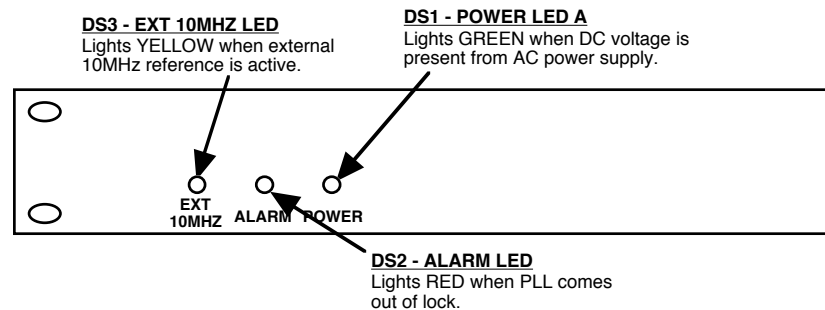

FIGURE 2.2 2116-222 Front Panel Controls and Indicators
Figure 2.2 shows the front panel indicators.
4. Be sure DS1 (green, DC Power) is on and DS2 (red, Alarm) is off (Figure 2.2).
6. If EXT is selected or AUTO is selected and there is a 10MHz, 3 dBm signal at J2, check that DS3 (yellow, Ext 10MHZ) is on (Figure 2.2).